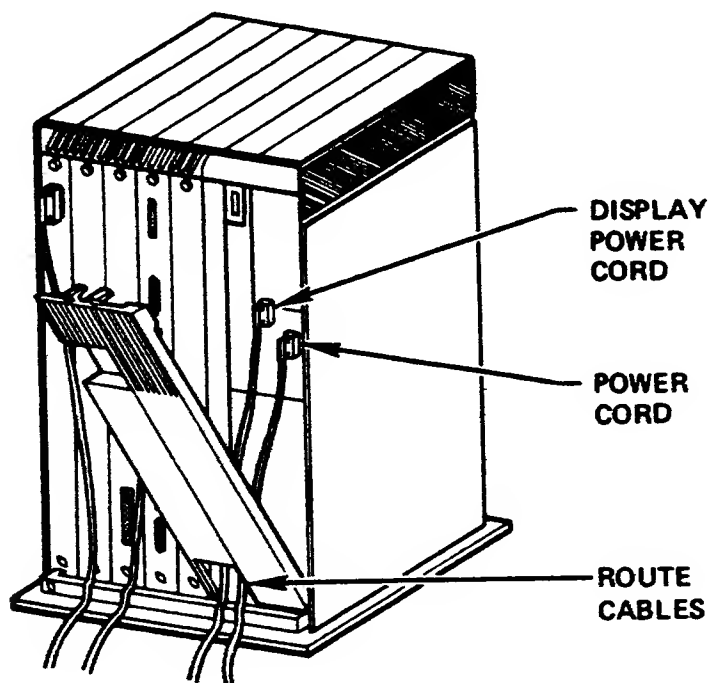

Figure 2-16. Power Cords Attached to Processor
10. Connect the power cord (packaged with the processor unit) and the display power cord (attached to the display) to the processor unit. (Figure 2-16).
11. Route the display power cord and the processor power cable through the opening at the bottom of the rear cover (Figure 2-16). Do not close the cover at this time.